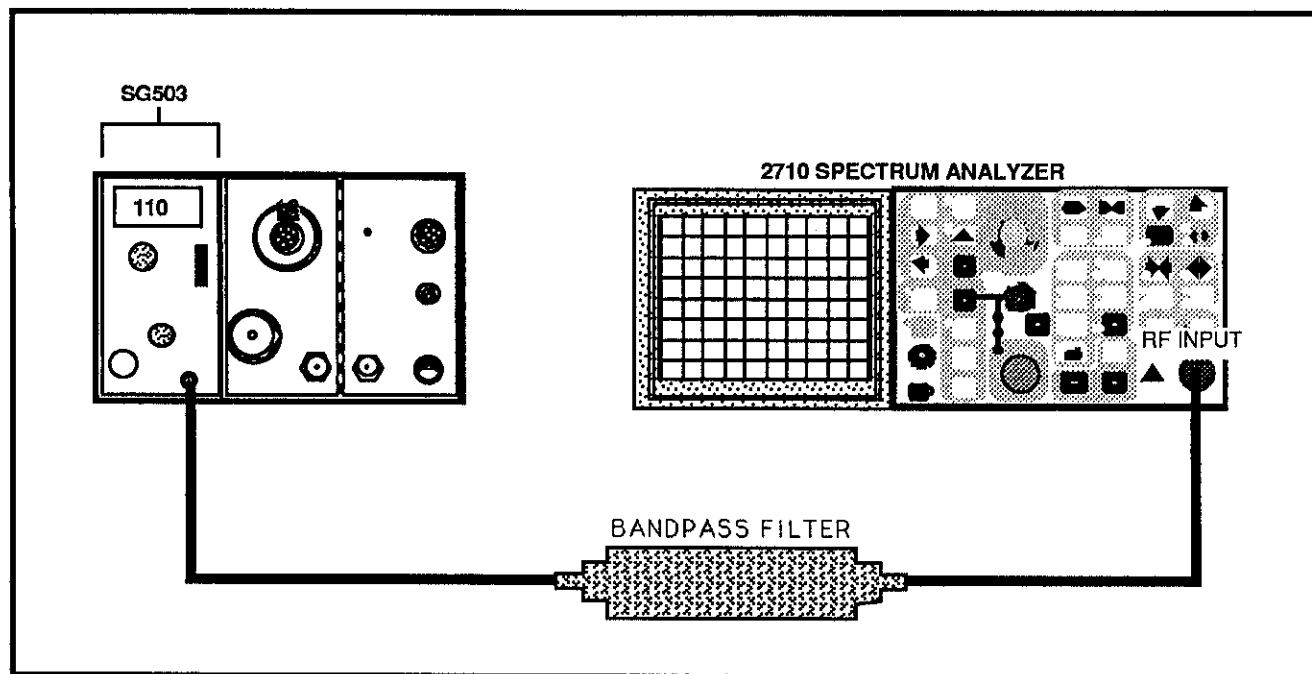

Figure 3-2. Harmonic distortion test equipment setup.
a. Connect the test equipment as shown in Figure 3-2.